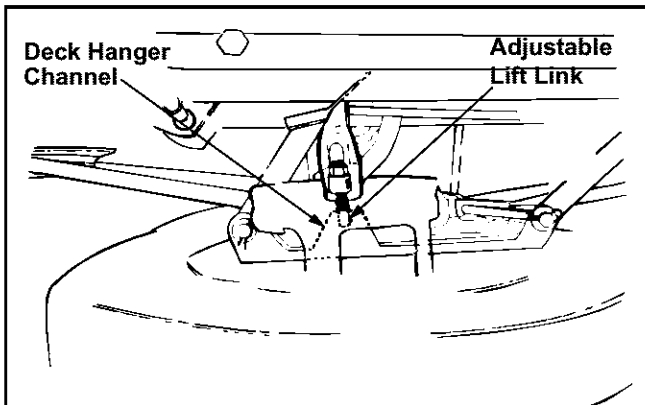

Figure 7
- Pull the adjustable lift link out of the deck hanger channel. Turn the adjustable lift link up or down as necessary to level the deck. Usually only one or two turns are needed. See Figure 7.